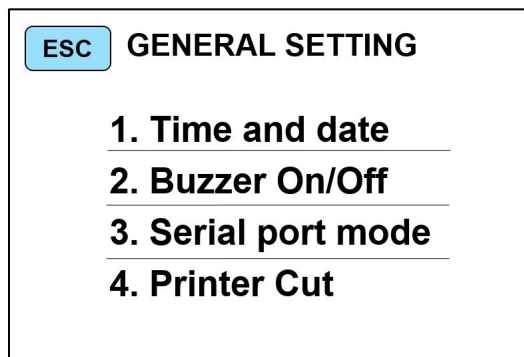
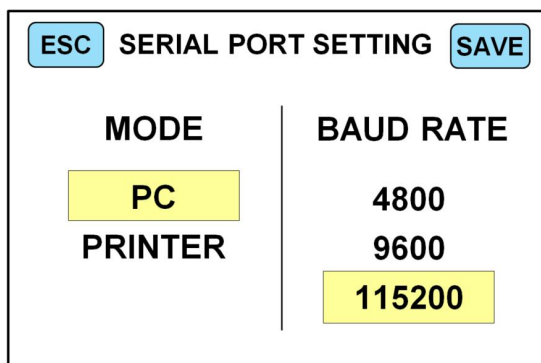

Figure 45
Figure 60
2) Press NO.3 under figure 45 “**3.Serial port mode**” to enter SERIAL PORT MODE interface as figure 60: